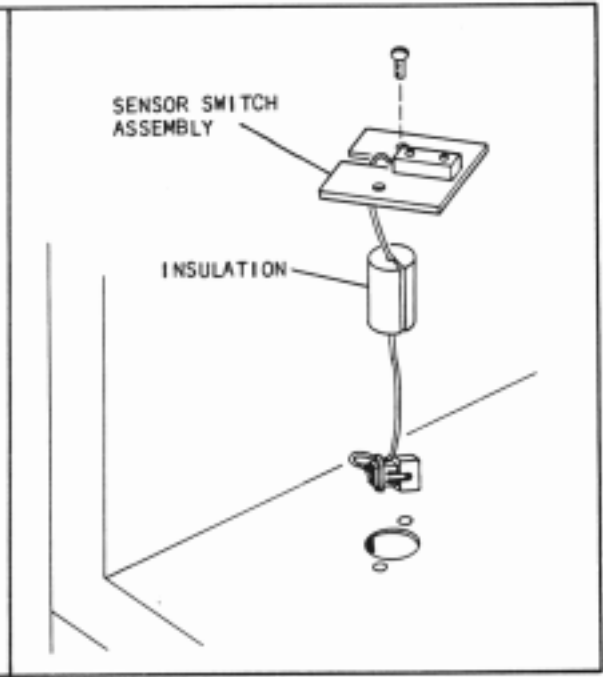

FIGURE 3
1. Place insulation on replacement sensor switch harness. (See Figure 3).